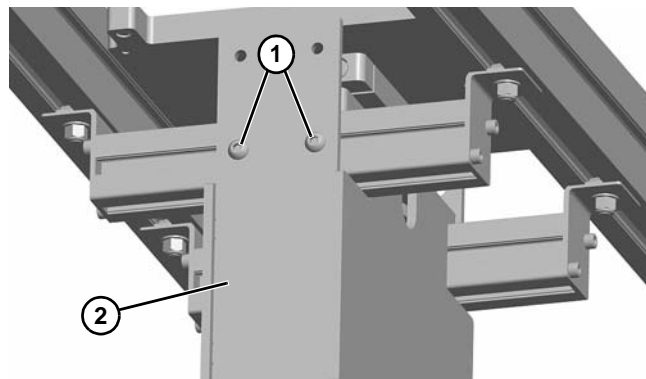

Figure 102
2. If installed, remove button head screws (Figure 102, item 1) and optional guard kit (Figure 102, item 2).